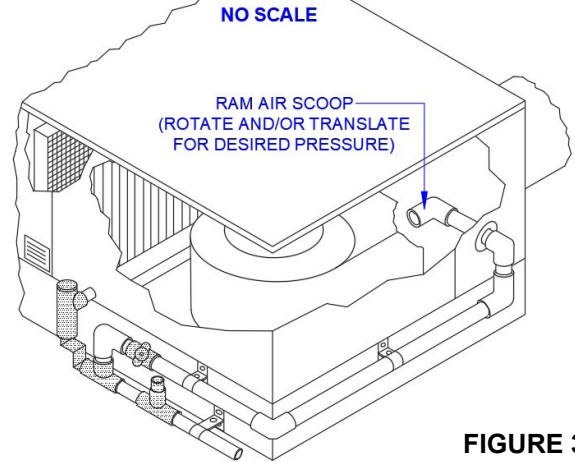
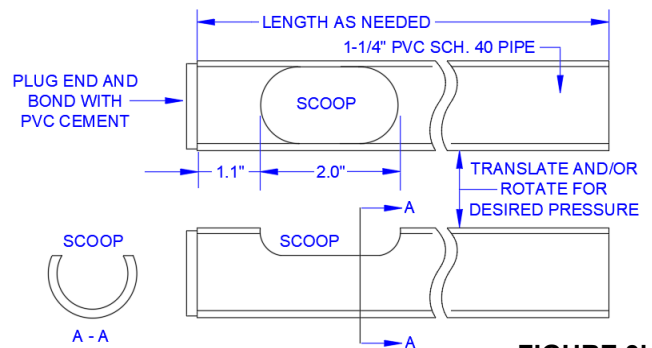

FIGURE 3a
FIGURE 3b
5. In rare instances, some systems may have low pressure in the supply plenum or duct. A ram air scoop may be placed in the blower discharge stream to achieve adequate pressure. Figure 3a illustrates the installation of an elbow-type scoop. If installing an elbow-type scoop is inconvenient, an alternate scoop constructed, as shown in Figure 3b, may be used.